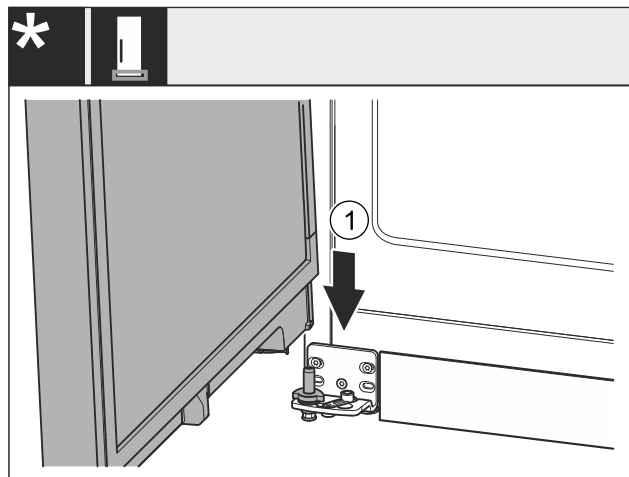

Fig. 44 *
- ▶ Lower the door onto the bottom bearing bolt Fig. 44 (1).*